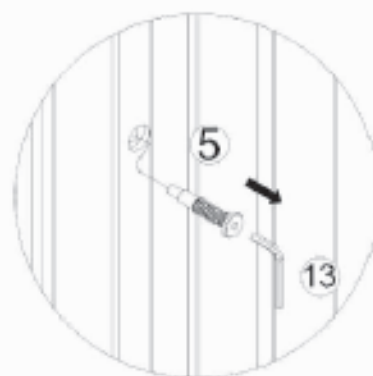

Figure 19.
1. Loose bolts in the Drop Side (D),
Remove the Drop Side (D). See Figure 19.
2. Drive out Nail (I), Then attach 4pcs Bolts (12)